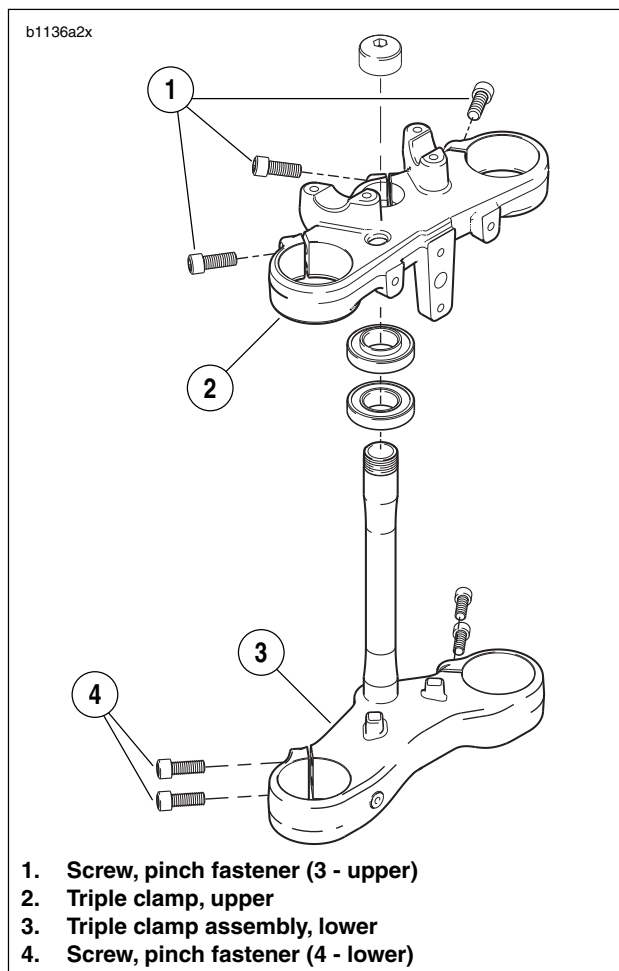

Figure 2-62. Upper and Lower Fork Clamp Assembly
4. See Figure 2-62. Loosen upper and lower fork clamp pinch fasteners (1, 4).
6. See Figure 2-62. Remove fork from lower fork clamp (3).